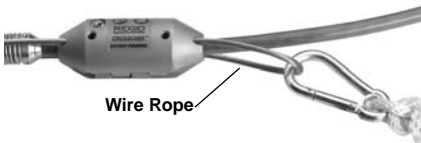

Figure 8 – Attachment of Rope
6. Securely tie the rope to the spring clip and attach to the wire rope loop as shown in Figure 8.